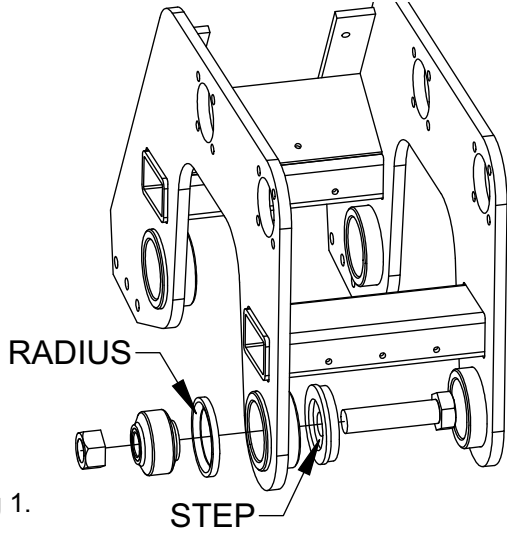

Fig 1.
6. Assemble the components of the tool, shock mount, and EXA frame as shown in figure 1.